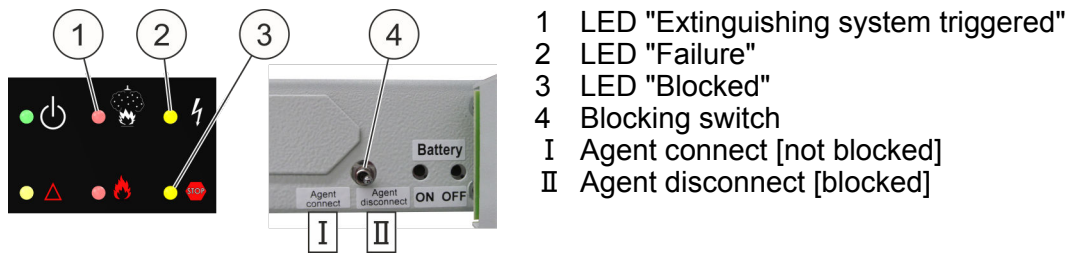

Fig. 39: Blocking
- Block the system prior to a function test. To this end, switch the blocking switch (Fig. 39/4) to "Agent disconnect [blocked]" (Fig. 39/ II).
- The upper yellow LED (Fig. 39/2) lights up.
The lower yellow LED (Fig. 39/3) also lights up if a door fitted with a door contact switch is open.
- Prior to removing the blocking, make sure that the upper red LED (Fig. 39/1) is **not** illuminated as the extinguishing process will otherwise be initiated immediately.